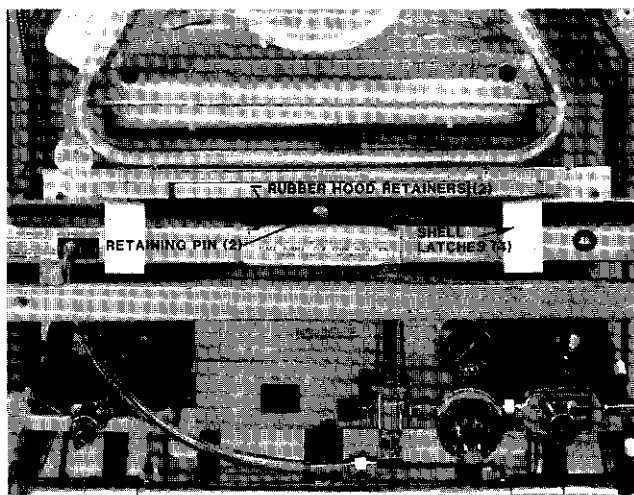

FIGURE 4.3 SHELL LATCHES AND RUBBER HOOD RETAINERS
- B. CHECK SHELL LATCHES AND RUBBER HOOD RETAINERS.** Check the shell latches and rubber hood retainers (Figure 4.3). All four latches should be properly secured and both rubber hood retainers should be free from cracks and intact.